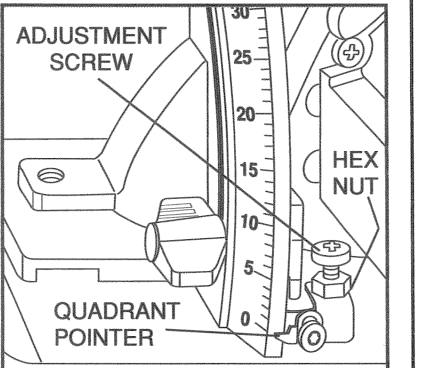

FIG. 11
5. Loosen the hex nut and move the adjustment screw so that the shoe will stop at the proper angle as shown in Figure 11. Lock the screw in place by tightening the hex nut.